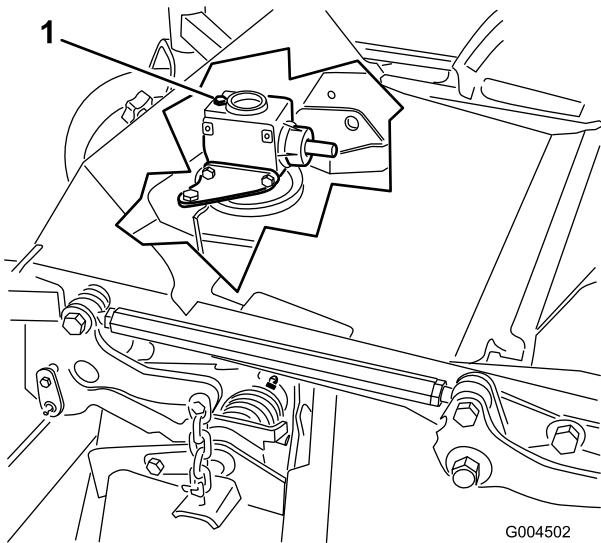

Figure 40
6. Remove the dipstick/fill plug from the top of the gear box (Figure 40) and make sure that the lubricant is between the marks on the dipstick.
6. Remove the dipstick/fill plug from the top of the gear box (Figure 40).